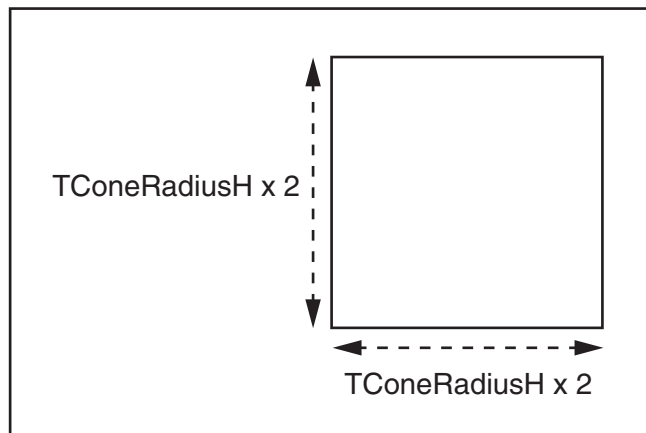

Figure 41. Workpiece with required length and width.
1. Locate or cut a round or square workpiece that has a length and width at least twice as large as calculated **TConeRadiusH** (see **Figure 41**).